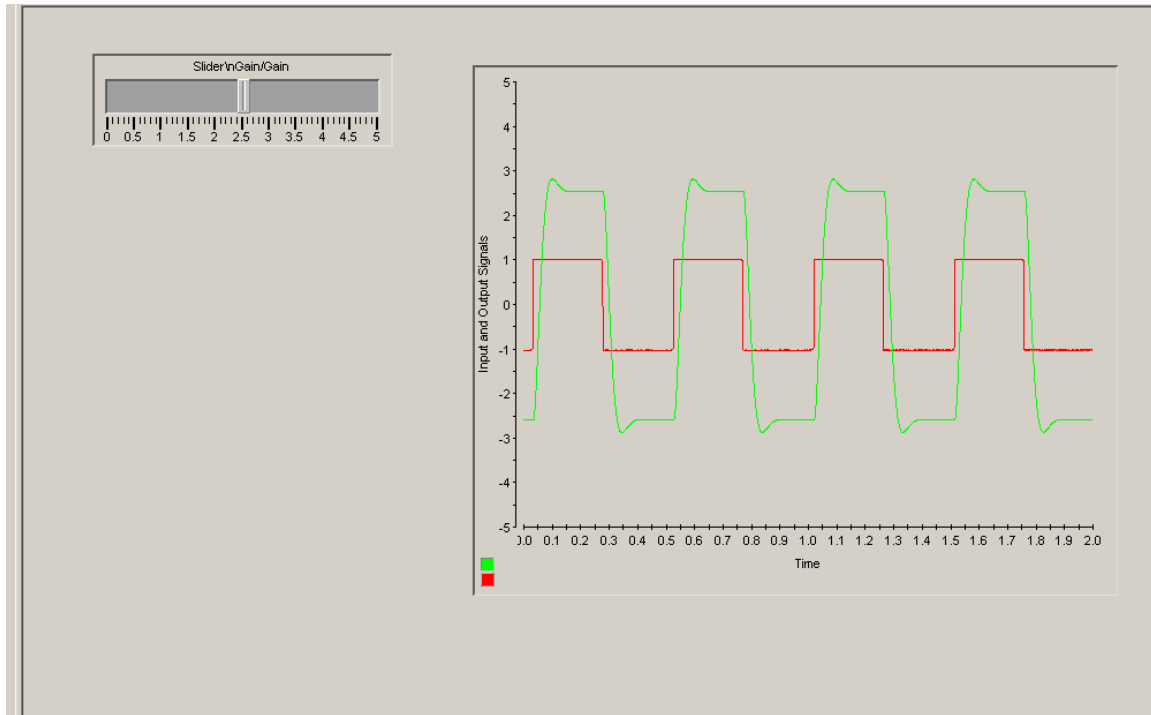

Figure 2.18: Real-Time Simulation Waveforms
- Change any of the parameters and watch the modifications in the signals displayed on the scope. Also observe the waveforms in the plotter window and they should like shown in Fig. 2.18 for the slider gain value displayed in Fig. 2.18. Now the experiment is running and our design job is done.